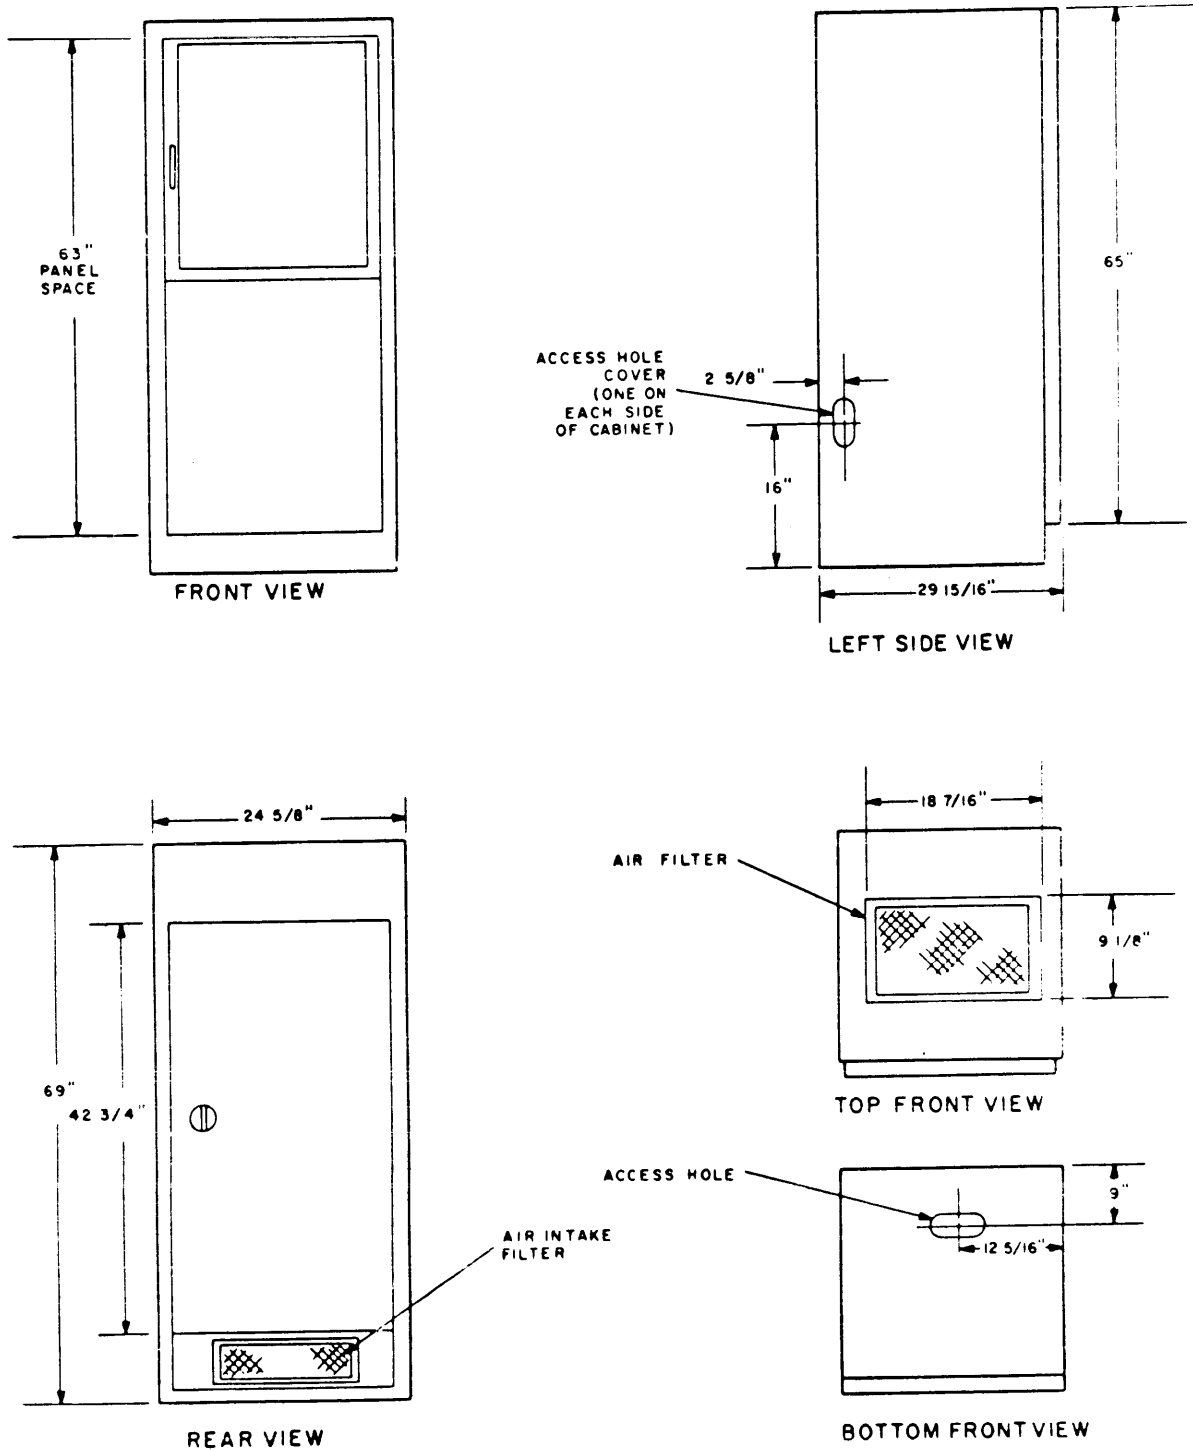

Figure 2-1. Dimensional Outline Drawing
a. LOCATION OF UNIT. Before attempting to install the MSG (A)-1, ensure that adequate power (paragraph 2-2) is available. Normally, the MSG (A)-1 is located next to its associated DDR-5 receiver but may be located at a convenient remote location. After unpacking and inspecting the rack place it in its operating location. It is advisable to do this while the modular units are not installed because the added weight of the assembled receiver will make movement more difficult. Figure 2-1 is a dimensional outline drawing for the MSG (A)-1. Sufficient space to open front and rear cabinet doors should be considered when choosing a operating location. The front door extends 19-3/4 inches from the cabinet and the rear door extends 19-1/2 inches from the cabinet when opened. The MSG (A)-1 has self contained squirrel cage blowers for cooling; air intakes for the blowers are located at the lower rear of the cabinet, and air exhaust is through openings in the top of the cabinet. Air intake and exhaust ports should be kept clear to assure adequate heat dissipation.